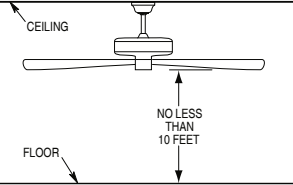

Figure 2
Your new ceiling fan will require a grounded electrical supply line of 120 volts AC, 60 HZ, 15 Amp Circuit. Electrical code requires use of a fan-rated outlet box to support the extra weight and motion associated with a ceiling fan. A fan-rated box will be labeled as such and typically supports up to a 70lbs ceiling fan. Fan-Rated Outlet Boxes vary in ratings and design. Ensure the ratings of your ceiling fan outlet box meet the requirements for the ceiling fan being installed. Figure 1, Figure 2 and Figure 3 depicts different structural configurations that may be used for mounting the outlet box.
Deep-profile use (Figure 2)
2. Remove the hairpin clip and clevis pin from the bottom of the downrod. Retain the pin and clip for reinstallation in Step 4. (Figure 2)
The fan must be hung with at least 10' of clearance from floor to blades. (Figure 2)
- ☐ 2. Securely attach and tighten the canopy screw cover over the shoulder screws in the hanger bracket utilizing the keyslot twist-lock feature. (Figure 2)
- ☐ **2.** Restore electrical power to the outlet box by turning the electricity on at the main fuse box. (Figure 2)